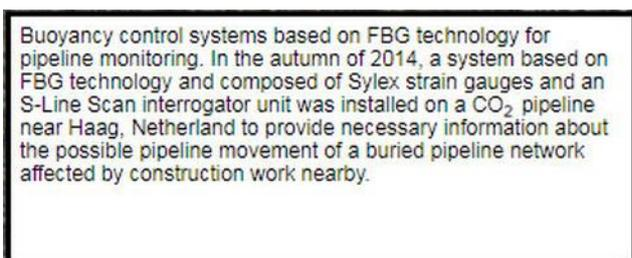

Figure 4: Description
- ▲ Project description (left bottom corner) – contains basic text information about the project (Figure 4).